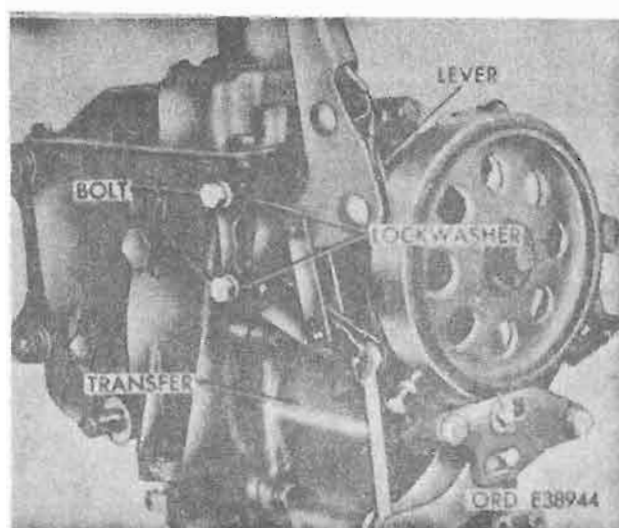

Figure 4-16. Parking brake lever.
(8) Remove two bolts and lockwashers securing parking brake lever to transfer case (fig. 4-16).